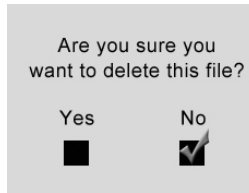
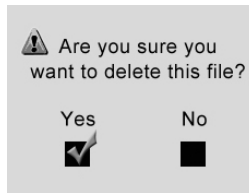

Fig. 19
Fig. 20
- Either in the **Photo** mode or in the **Video** mode, press **Bin** button to delete captured photos and videos, and a “**Are you sure you want to delete this file?**” message appears on the screen. (*Fig. 19 and Fig. 20*).